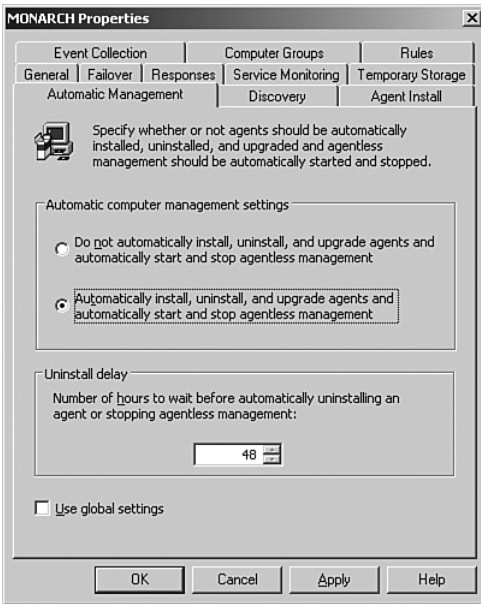

FIGURE 9.14 Automating computer management settings.
- ▶ For all management servers—In the Administrator console, choose Administration \ Global Settings. Right-click Management Servers and choose Properties. Click the Automatic Management tab and choose the Automatically Install, Uninstall, and Upgrade Agents and Automatically Start and Stop Agentless Management option as shown in Figure 9.14.